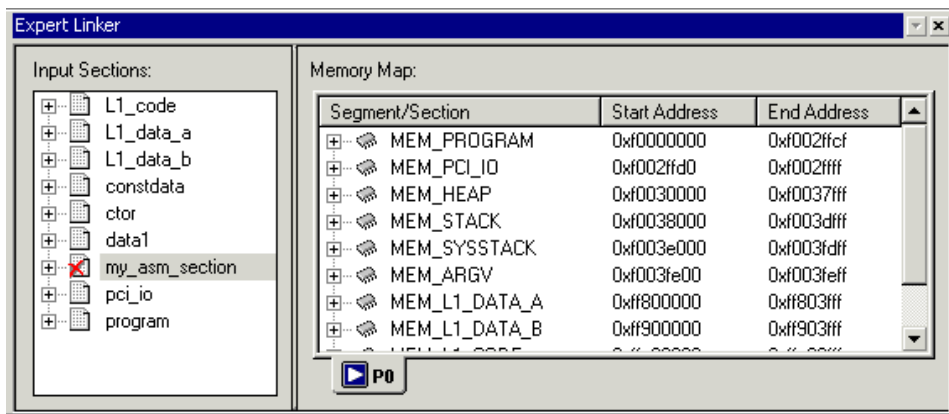

Figure 2-21. Expert Linker Window
4. In the **Project** window, double-click in the `dot_prod_asm.ldf` file. The **Expert Linker** window (Figure 2-21) opens with a representation of your file.
The right pane contains a graphical representation of the memory segments that the Expert Linker defined when it created the `.LDF` file. Change the view mode by right-clicking in the right pane and choosing **View Mode**. Then choose **Memory Map Tree** to display the tree view shown in Figure 2-21.